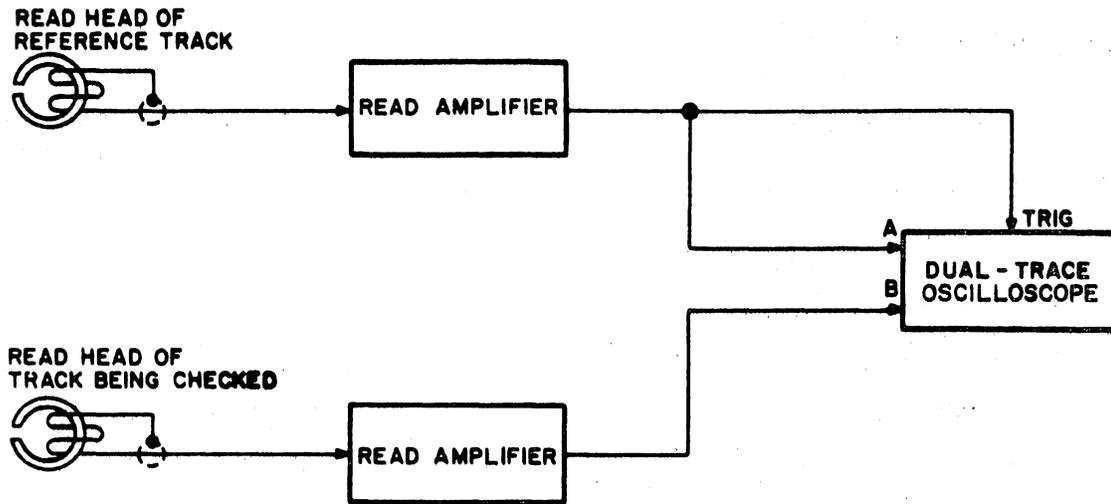

Figure 5-12
- Step 1: Connect the test equipment as shown in Figure 5-12.